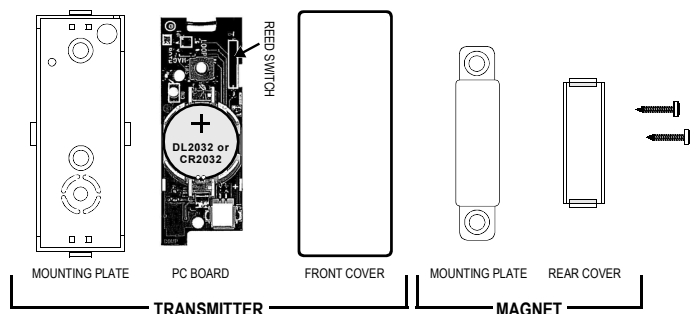

Fig. 1. GEM-TRANSLP Component Parts
Notes: The transmitter and magnet may be mounted in any position with no degradation in performance. Thus, if a left-handed reed switch is required, the unit may be mounted upside down. However, for reference purposes in this text, the transmitter will be considered oriented with the reed switch at the top, as shown in Fig. 1. The PC board snaps into the transmitter front cover in only one direction; a raised alignment mark on the transmitter front cover indicates the location of the reed switch on the PC board. There is also an alignment mark on the magnet mounting plate.
3. **Identify PC Board parts.** Note location of reed switch in Fig. 1.